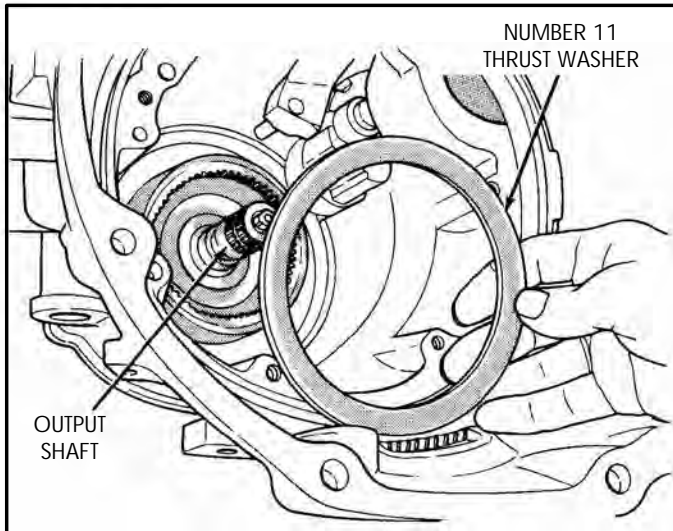

Figure 60
39. Remove the number 11 thrust washer from the transaxle case, as shown in Figure 60.